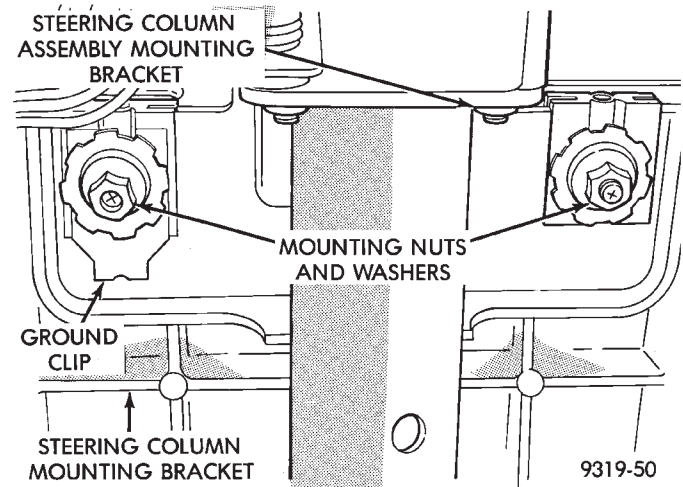

Fig. 12 Upper Steering Column Assembly Mounting
(20) While supporting weight of steering column to prevent damage to lower bracket and plastic adapter tabs. Loosen and remove the 2 nuts and washers attaching upper steering column assembly bracket (Fig. 12) to steering column mounting bracket.